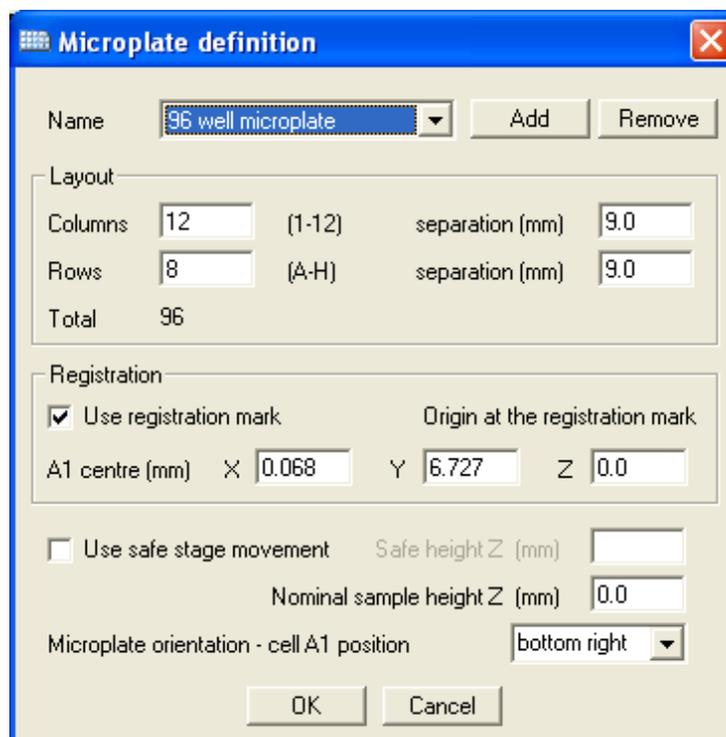

Figure 5 Registration mark settings
7. Go back to Micro-plate *definition*, and select *Configure*. Check the *use registration mark* box, and enter the values of x and y obtained in '6' (Figure 5).